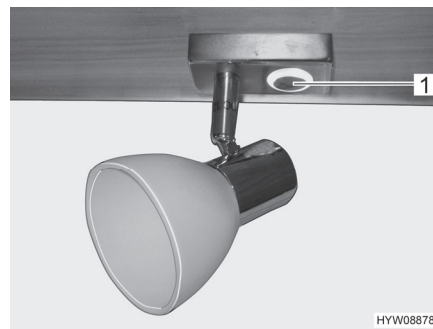

Fig. 91 Lamp with switch
- Briefly touch the switch (Fig. 91,1). The switch will be lit as twilight.